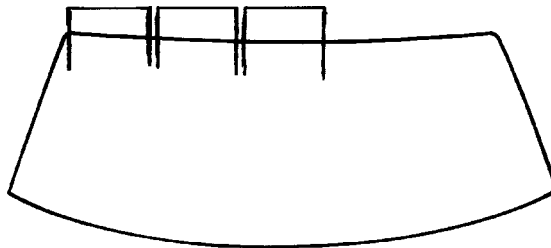

FIGURE 4
6. Using the wool dabber, apply **Cleaner-primer bottle #1** around the windshield edge (Figure 4). The primer sets very quickly and must be wiped off while still wet (within seconds of application). Do only 1 or 2 feet of the windshield edge at a time, then quickly wipe clean with the chem wipe provided in the kit. DO NOT touch after cleaning.